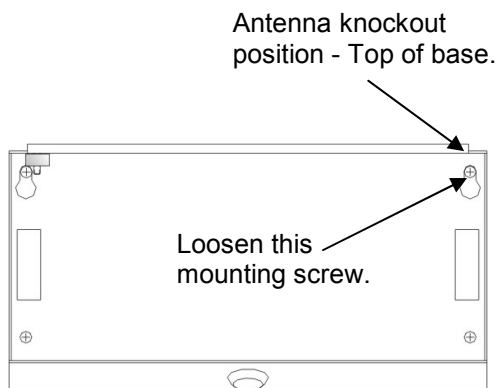

Figure 1
- The Mounting Bracket (Figure 1) slides under the base screw at the top right corner.